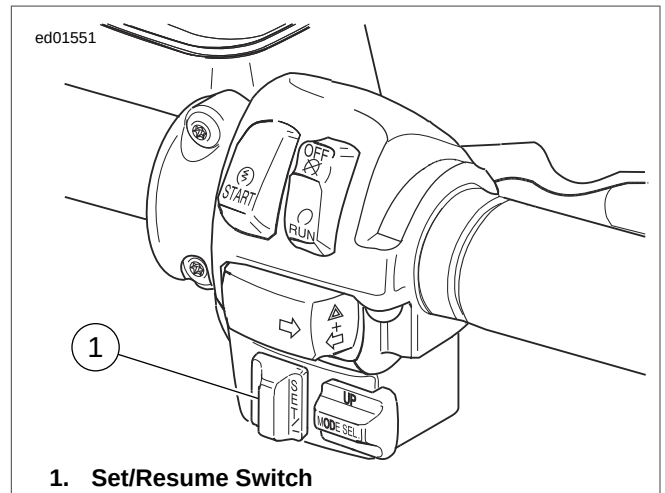

Figure 4-62. Right Handlebar Switch Assembly (FLTR, FLHTCU)
2. With the motorcycle traveling at the desired "cruise" speed, 30-85 MPH (48-137 km/h), momentarily push the Cruise SET/RESUME switch to SET. See Figure 4-62.